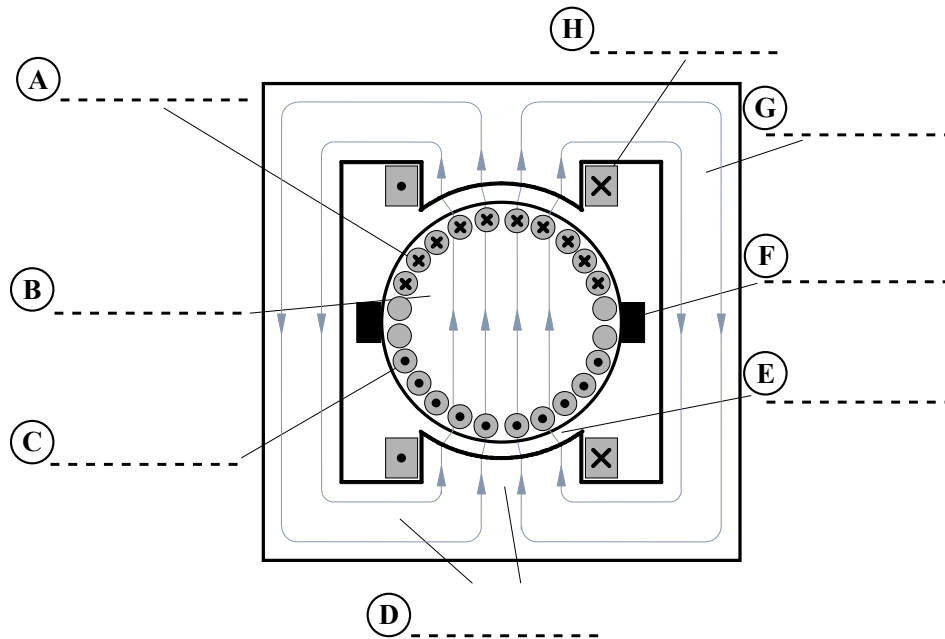

Fig. 3: DC machine cross section with missing component labels.
Fig. 3 shows a simplified DC machine cross section. The symbols  $\bullet$  and  $\times$  indicate technical conductor current directions (out of / into the drawing plane). Assume that the drawn field lines represent the complete air-gap field, i.e., no additional field lines exist to the left and right of the shown field region. Thus, outside the depicted air-gap field region the flux density is assumed to be zero.
2.1 Add the missing component labels (A–H) in Fig. 3.
2.2 In Fig. 3, draw the resulting Lorentz force on one exemplary forward conductor ( $\bullet$ ) and one